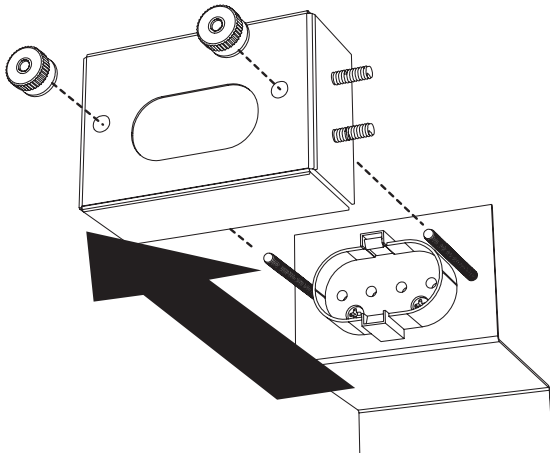

Fig. 5 Press lamp into place then attach lamp cover.
Remove lamp cover from device prior to installation. (Fig.5.)
4. Remove the lamp cover. (See Fig. 5.)